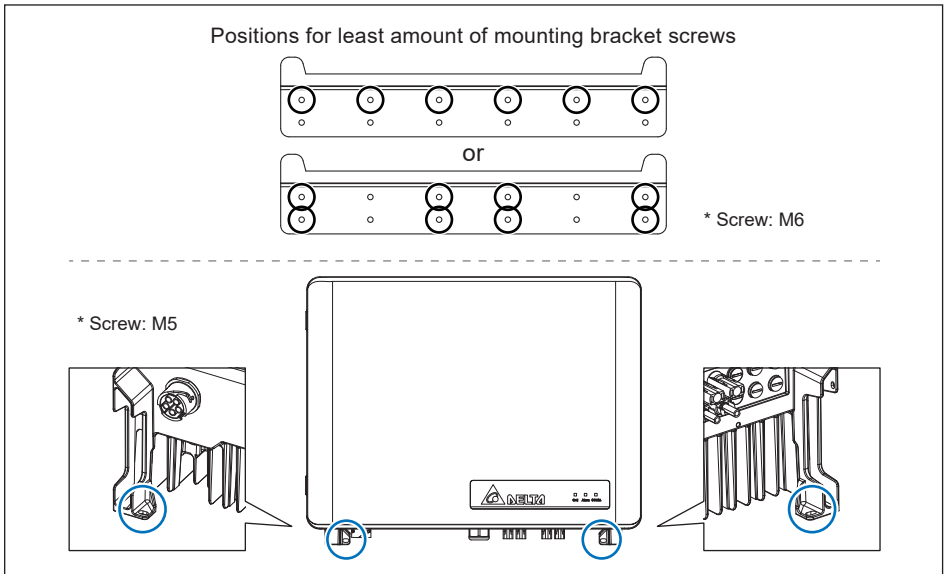

Figure 3-5: Positions of mounting screws
5. Secure the inverter by 2 M5 screws on the position* shown as **Figure 3-5**.